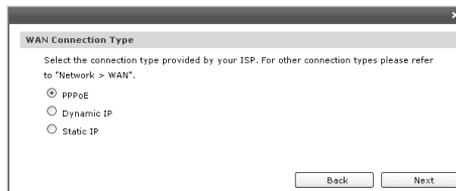

Figure 5-7 WAN Connection Type
6. Select the connection type provided by your ISP (Internet Service Provider) as the Figure 5-7 shows. Three popular types are provided here. For other connection types, please refer to the **Network**→**WAN**.